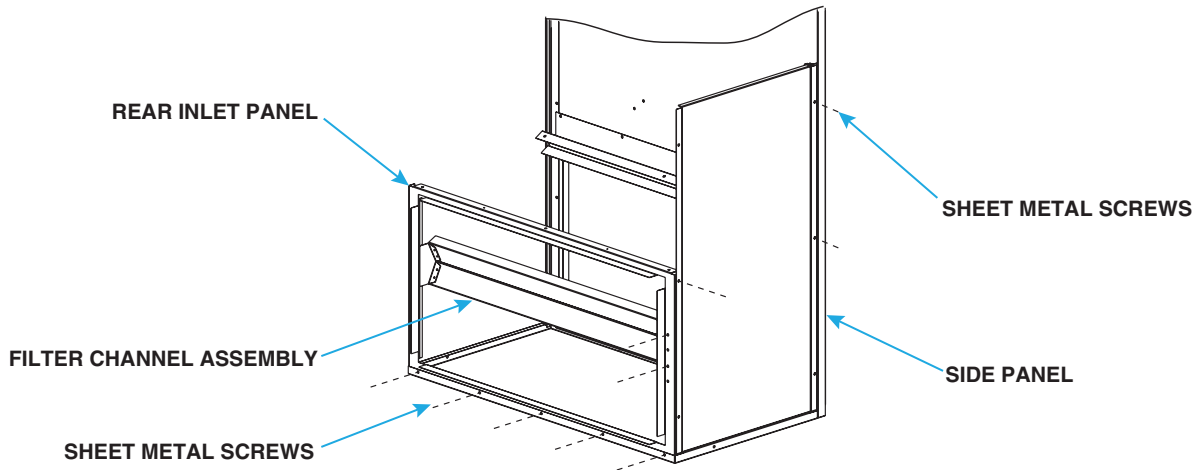

Figure 10. Install Side and Rear Inlet Panels and Filter Channel Assembly
3. Install side panel, rear inlet panel, and filter channel assembly as shown in Figure 10: